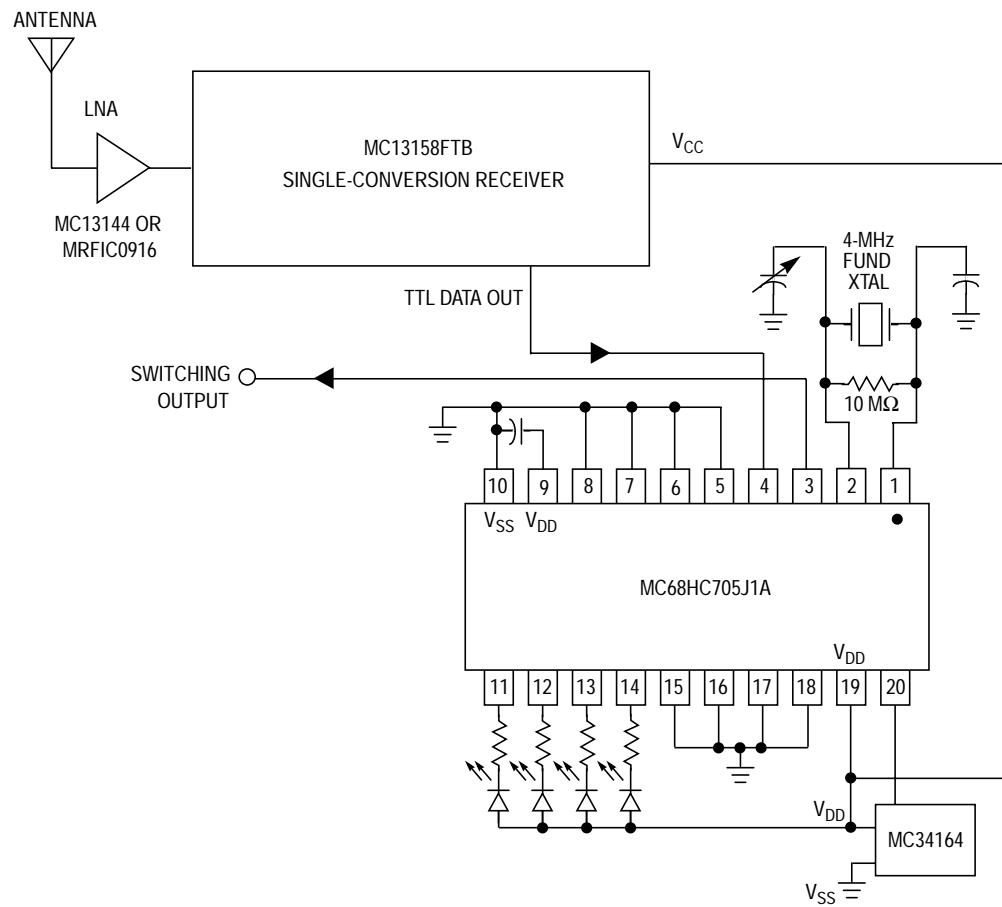
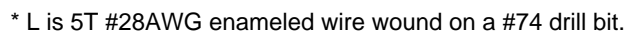

Figure 1a. OOK Receiver Block Diagram
Figure 2. Detailed OOK Receiver Circuit
The OOK receiver shown in **Figure 1a** has many advantages over a TRF receiver. It utilizes two monolithic integrated circuits (IC), the MC13144 [2] as a cascade low-noise amplifier (LNA), and the MC13158 [3] as the main building block components of the receiver. This receiver offers very stable operation with more than 115 dB of stable gain. Typical sensitivity is -100 dBm which allows for a greater operating distance between transmitter and receiver. By utilizing a varactor-controlled LO locked by an external automatic frequency control (AFC) circuit, the receiver has the ability to lock onto the transmitter. Thus, this receiver system has no need to use a more expensive crystal oscillator for the LO.
The mixer has differential RF inputs allowing it to be used in balanced and single-ended configurations. Its single-ended input impedance is 1 k Ω in parallel with 4 picoFarads. Access is provided to the base and emitter of the MC13158 internal oscillator transistor for attaching the oscillator resonant tank circuit. The oscillator transistor internally drives the mixer and can be operated as an LC oscillator to greater than 450 MHz. The application circuit (see Figure 2) uses a varactor-controlled oscillator (VCO) to provide LO drive at approximately 395 MHz.
The block diagram of the OOK receiver and its controller is shown in **Figure 1a**. The complete schematic of the MC13144 and MC13158 single conversion OOK receiver circuit is shown in **Figure 2**. The internal on-board transistor is used as the LO source to down convert the received 384-MHz RF carrier signal. Its VCO tuning frequency is controlled by an automatic frequency control (AFC) circuit created with the dc output from the MC13158 quadrature detector buffer amplifier and an external loop filter.
- IF output and the limiter input (see **Figure 2**)
In the receiver, an input carrier level of -80 dBm allows recovery of the PCM waveform without jitter or tearing at 2 kbps (see **Figure 2**). This is improved approximately 15 dB by using a preamp and bandpass filtering before the mixer. Design of the matching network to the preamplifier should consider interfacing to an antenna which would be "application specific," depending on the size and type of antenna. A loop antenna suitable for this application is discussed in a book by Constantine Balanis [11].